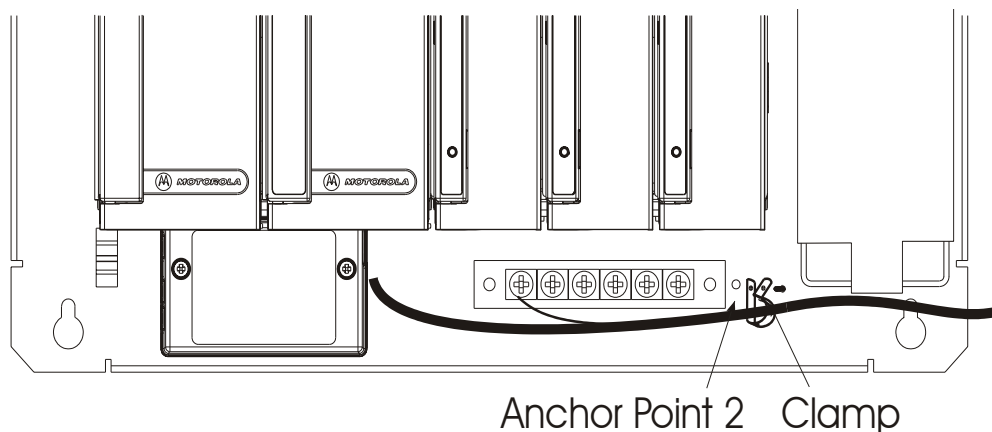

Figure 2-13 RTU on Metal Chassis – Cable Anchor Point 2
Anchor point 2 for all other units without housing (other than No I/O Slots) is near the unit's ground strip. (See Figure 2-13 below.)
- 2) If user-supplied cables are used, connect the ground wire(s) to the PGND pin(s) on the I/O module and to the grounding strip at the bottom of the RTU. (See grounding strip in Figure 2-13 above.)
Connect the ground wire(s) from the cable braid to the PGND pin(s) on the I/O module and to the grounding strip at the bottom of the RTU. (See grounding strip in Figure 2-13 above.)